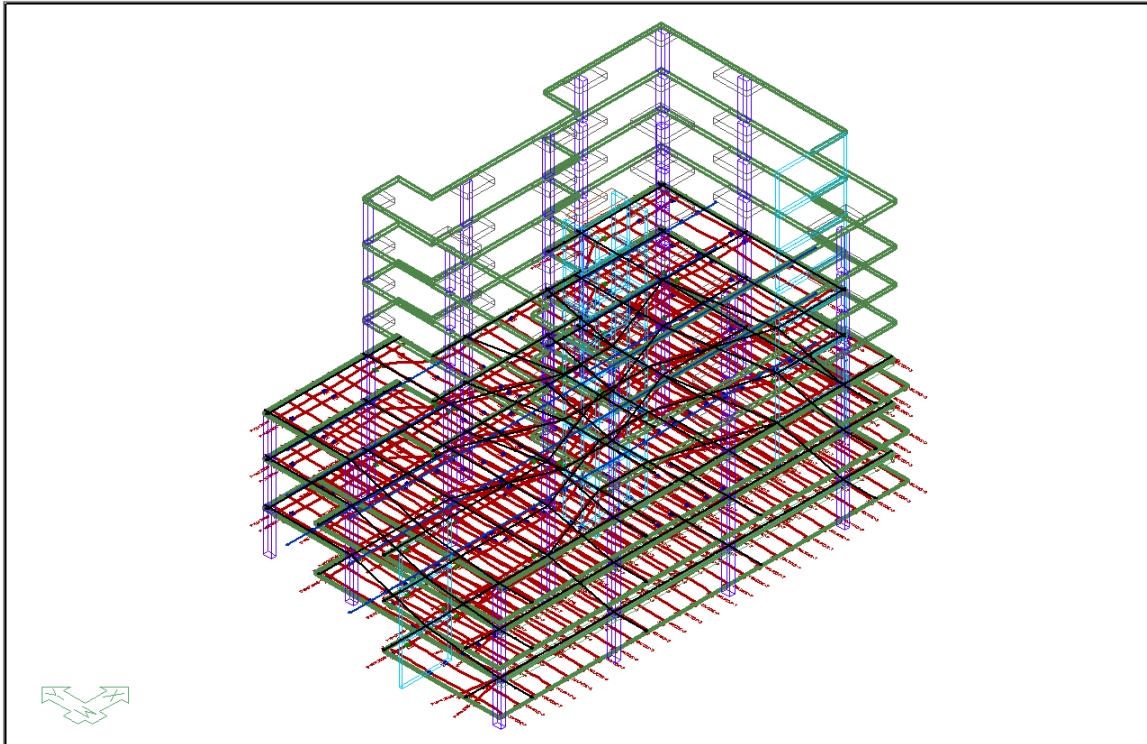

FIGURE 9-142
- Click on the **Top-Front-Right View** icon  in the *Quick Access Toolbar* at the bottom of the screen. This will bring you to the view of the model shown in **FIGURE 9-142**.